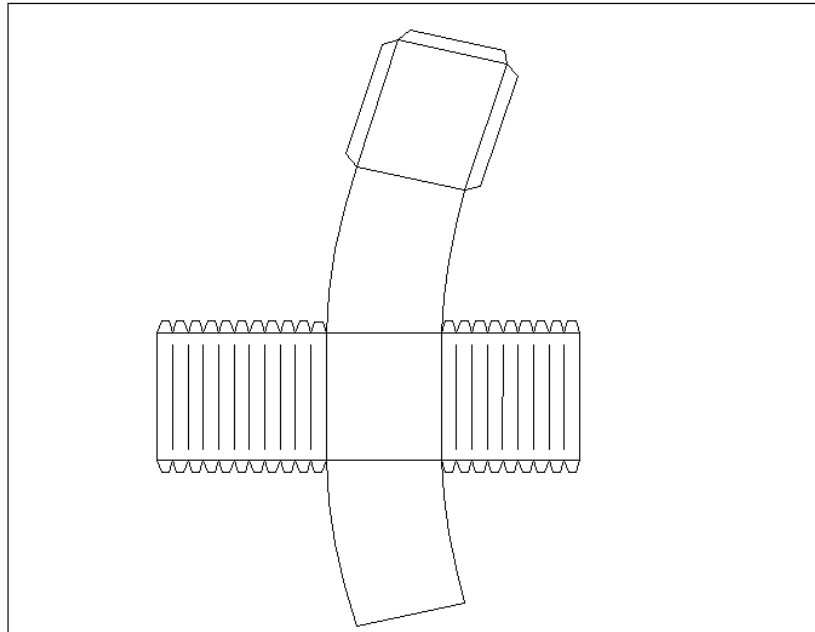

Figure 13.3
1. As promised, a net for one *curved* voussoir of a nine-unit arch is given in **Fig. 13.3**. The two shaded panels must be curved to fit the edge of the front and back panels, top and bottom, which account for the series of glue-tab “teeth”. A straight glue tab would not allow them to take the curve.